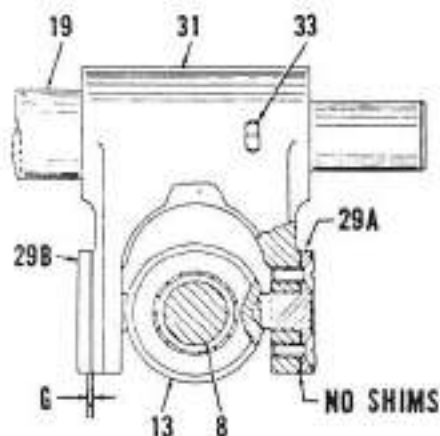

Fig. 20—View showing method of selecting shims for ball nut peg preload. Refer to text for procedure and to Fig. 17, 18 or 19 for legend.
Install one ball nut peg (29A-Fig. 20) without shims and tighten the two cap screws securely. Install second ball nut peg (29B) without shims and tighten the two cap screws evenly until inner end of peg binds ball nut lightly. Using a feeler gage, measure gap (G) between ball nut peg (29B) and rocker arm (31). The shims to be used in final assembly should be 0.001 to 0.003 inch less than measured gap (G) and divided equally as possible for installation under each ball nut peg. The shims are available in